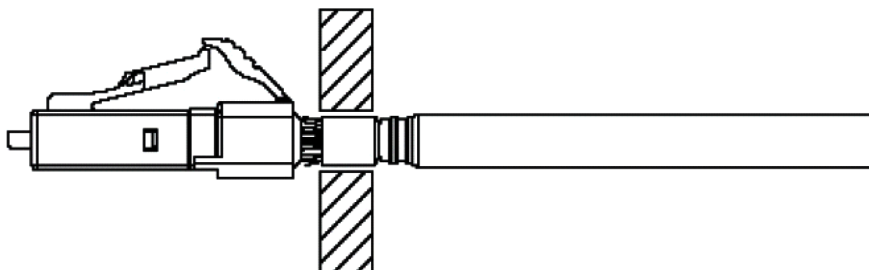

Fig. 6
Step 6 Slide the pre-inserted crimp tube against connector with Kevlar evenly distributed. Fix crimp tube on connector with crimping tool per Fig 6.